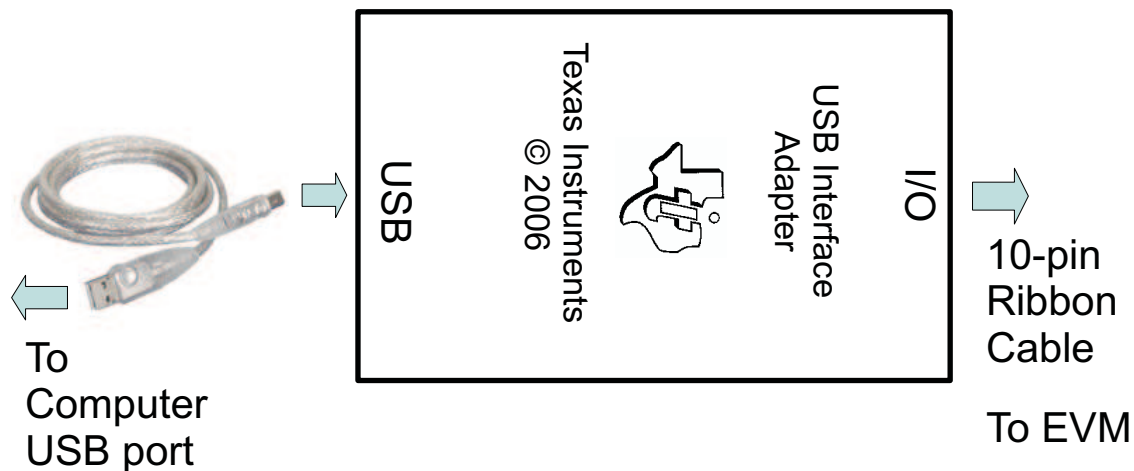

Figure 3. Connections of HPA172 Kit
Because the bq24160, bq24161, and bq24163 have the watchdog timers enabled, it is recommended that you set the software's **Reset Watchdog Timer** to reset every 5 seconds. Otherwise, after 30 seconds of operation, the IC enters Default mode. Note that the 27-minute safety timer is not reset by this function and eventually times out if charging does not complete, unless the **Safety Timer Time Limit** is expanded or disabled via the GUI. One way to reset the safety timer is to allow the 30-second watchdog timer to expire. See Figure 3 in the data sheet for more information about the timers.
7. Connect J17 to HPA172 kit by the 10-pin ribbon cable. Connect the USB port of the HPA172 kit to the USB port of the computer. The connections are shown in Figure 3.